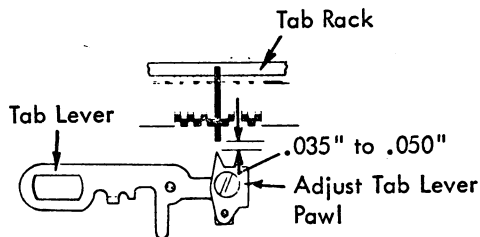

FIGURE 231. Tab Lever Pawl
5. Tab Lever Pawl (Fig. 231) - Adjust the pawl forward or back on the tab lever so that the tip of the pawl clears a set tab stop by .035" to .050". This adjustment should be checked on the left, center, and right of carrier travel.